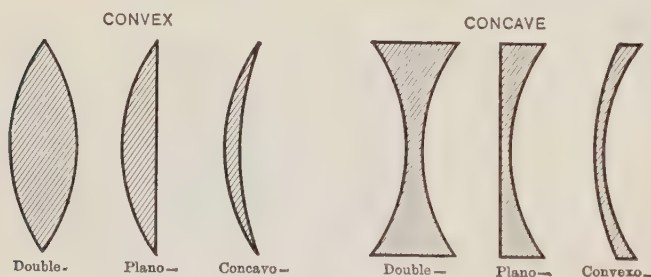

FIGURE 598. — Common forms of simple lenses.
**413. Kinds of Lenses.** — There are two types of simple lenses; those *thicker* in the middle than at the edges, called *convex*, and those *thinner* in the middle, called *concave*. These may be further divided into double convex, plano-convex, and concavo-convex, and the corresponding concave forms (Figure 598). The general effect of convex lenses is to converge the light that falls upon them or to render it less divergent. The general effect of concave lenses is to cause light to be more divergent than before it falls upon the lens.